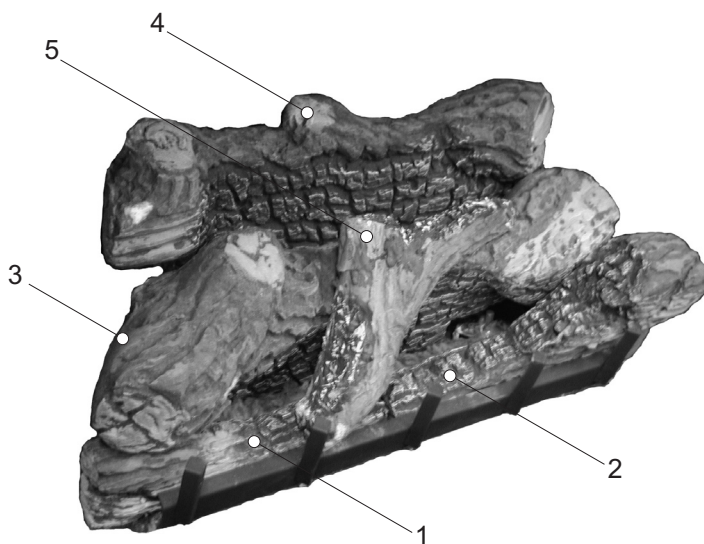
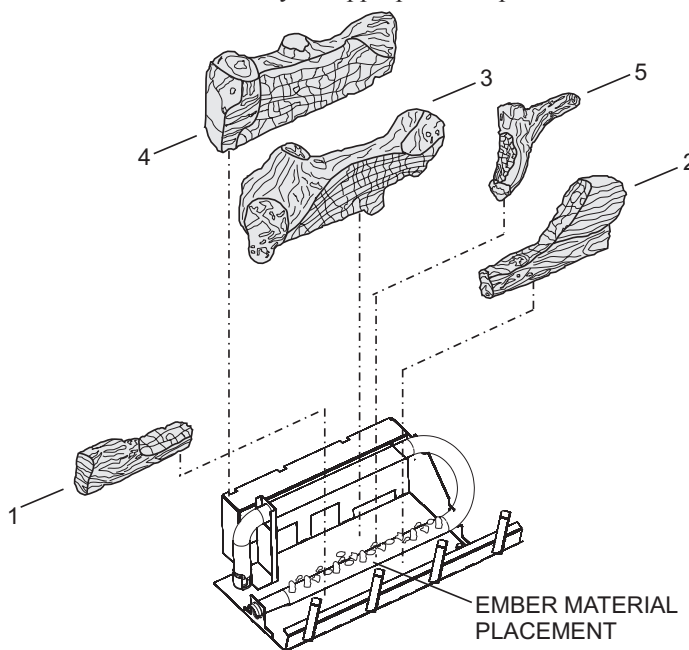

Figure 51
Figure 52
The positioning of the logs is critical to the safe and clean operation of this fireplace. Sooting and other problems may result if the logs are not properly and firmly positioned in the fireplace. Please refer to **Figure 51** and **Figure 52** and corresponding WARNING when completing following log placement instructions.
10. After all logs are positioned properly, apply Rockwool ember material to the front burner port area. To apply, carefully separate the ember material into small amounts no larger than "dime size" pieces. Fluffed up pieces one layer thick on top of the burner generally works best, and will provide the best ember glow. Do not place ember material more than one layer thick. No more than (1) small packet of ember material (part no. 15999) evenly placed on the burner, is recommended on DVD32 and DVD36 models. Using additional ember material will decrease the amount of ember glow effect. Extra ember material should be saved for future ember applications as necessary. See Figure 51.
Attention: Do not use Figure 51 or Figure 52 to order logs. Refer to parts list on page 45 and parts view on page 46 to order logs and/or ember material for your appropriate fireplace model.